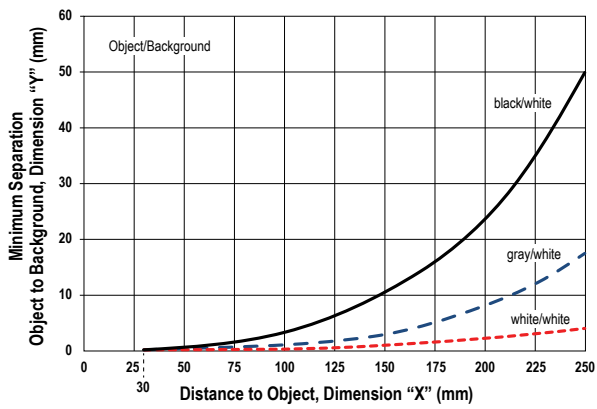
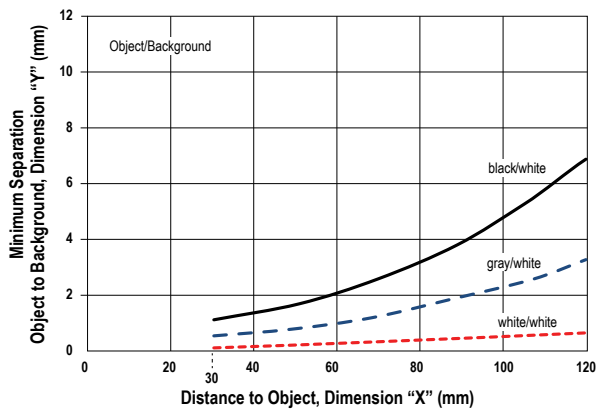

Figure 3. Minimum Separation Between Object to Background (Background Suppression Mode)
Figure 4. Minimum Separation Between Object to Background (Background Suppression Mode)
To ensure reliable background suppression, a minimum separation distance between the object and the background is necessary. See Figure 3 on page 4 for AF250 models or Figure 4 on page 4 for AF120 models to determine the minimum separation distance.
1. Mount the sensor with the darkest object at the longest application distance. The distance to the object must be less than shown in Figure 3 on page 4, or Figure 4 on page 4 for your object color, depending on the model.